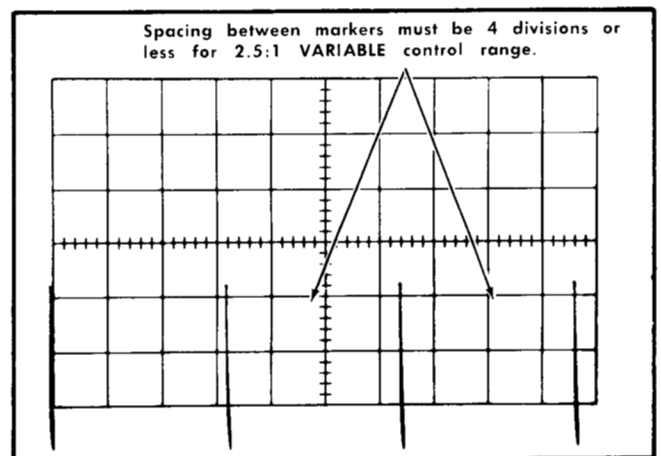

Fig. 5-15. Typical crt display when checking VARIABLE TIME/DIV control range.
- f. Check—4 divisions or less between markers (2.5:1 range); see Fig. 5-15. UNCAL A or B light must be on when A VARIABLE control is not in CAL position.
- e. Check—4 divisions or less between markers (2.5:1 range); see Fig. 5-15. UNCAL A or B light must be on when B VARIABLE control is not in CAL position.